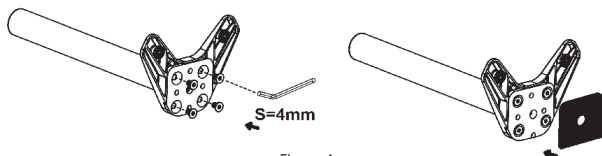

Figure 4
- Insert the **Screws (x4)**, removed in step 6, through the **Grommet Plate** and into the **Pole Assembly** and tighten, using the **4 mm Hex Key**. (Figure 4)